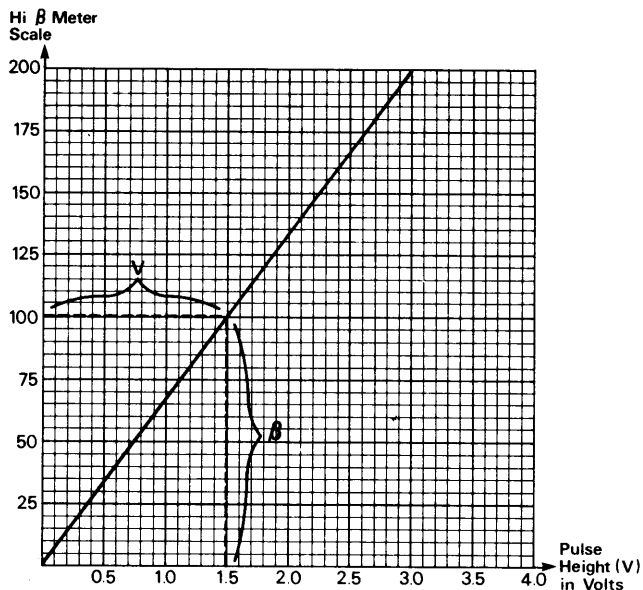

Fig. 11. Hi β calibration chart.
- Using graph in Fig. 11, find the pulse height (V) (recorded in step 5), on the horizontal axis. Extend a vertical line from that point. The intersection of that line with the diagonal line when projected on the vertical axis should be the required "HI β " scale reading. Record this value "HI β CAL." If another value is on the "HI β " scale, unplug the Model 530 and remove the bottom panel to expose the printed circuit board. (Do not remove or upset test transistor connections and Model 530 control settings).
- Plug the Model 530 into the power source. Turn TRANSISTOR BETA/FET g_m switch (9) to the